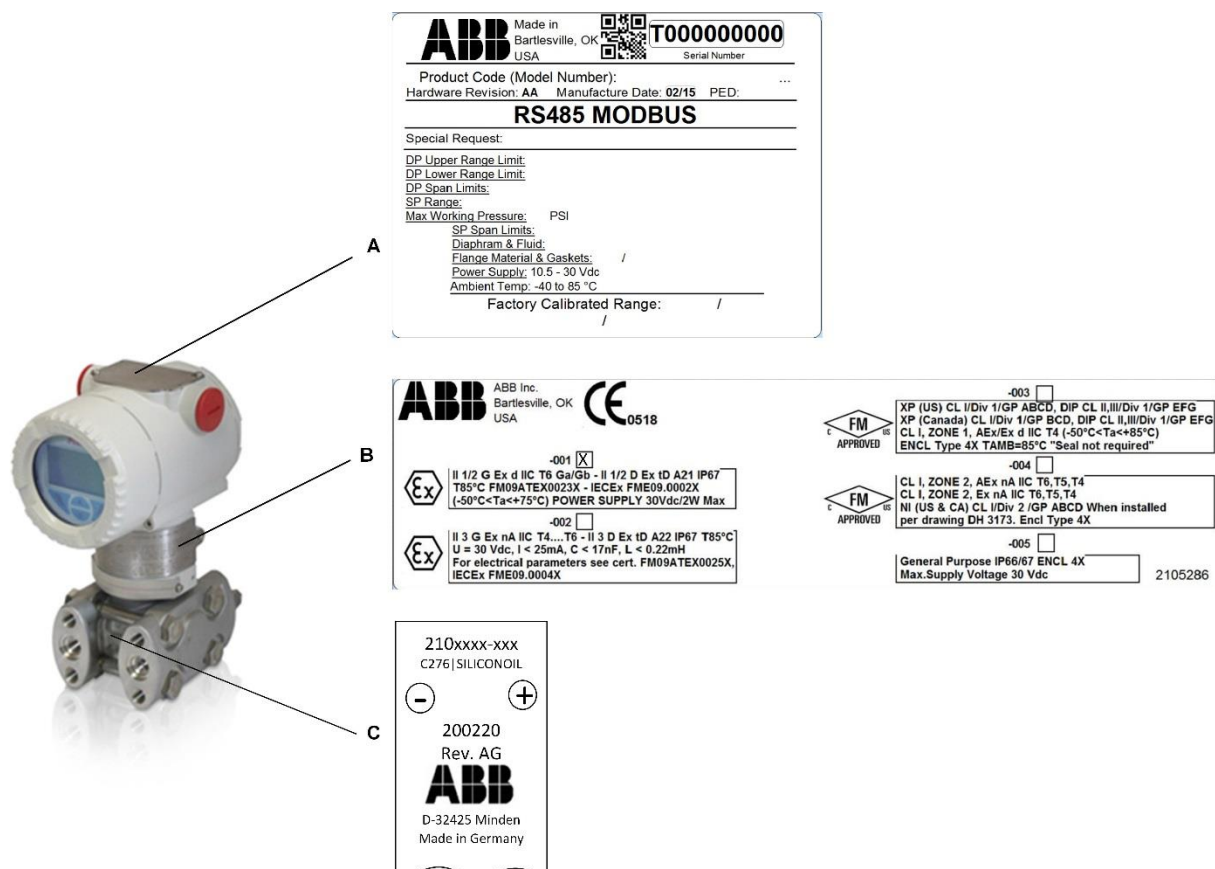

Figure 12: Transmitter name plates
3. Verify that the correct transmitter has been shipped. Use the transmitter tags (nameplates A and B) shown in Figure 12 and the information found on the packing slip and in section 3.2.2, *Product model identification*, for verification. The figure shows a transmitter with a typical barrel housing configuration.